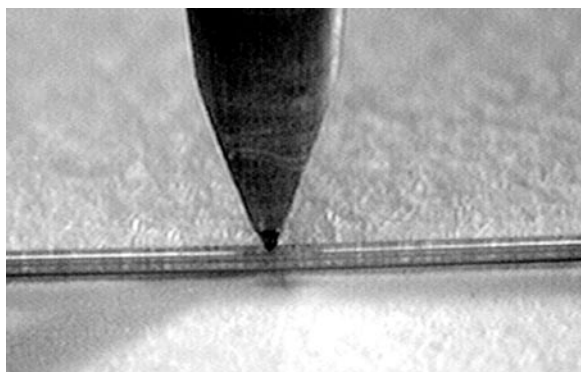

Figure 5.1: Cleaving fused-silica tubing
- 1) Place the tubing to be cut on a clean, flat surface and position the cleaving tool blade perpendicular to the tubing bore, as illustrated in Figure 5.1.